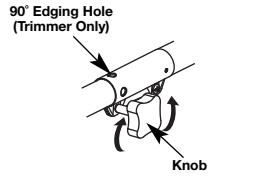

Fig. 13
- Turn the knob counterclockwise to loosen (Fig. 13).
- Turn knob counterclockwise to loosen (Fig. 13).
- Turn the knob clockwise to tighten (Fig. 13).
For edging (when using the line head cutting attachment with EZ-Link™ models), lock the release button of the cutting attachment into the 90° edging hole (Fig. 13).